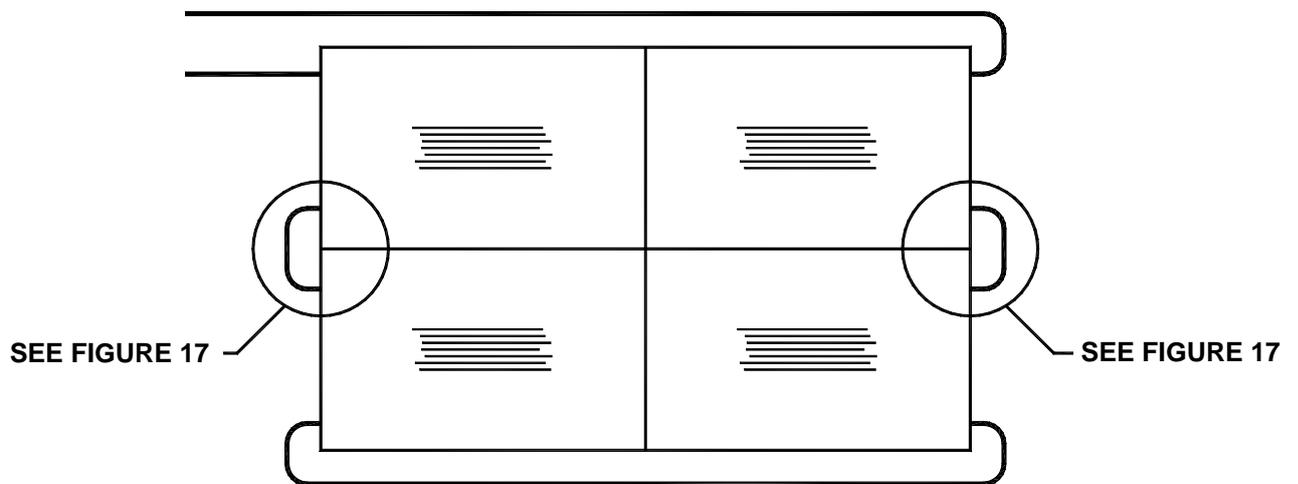

Figure 15 - Connection of sensors in series
Step 5 - In the case of a combination of sensors connect the sensors in series as shown in Figures 15 and 16. Special grease filled waterproof connectors are available from Tapeswitch Ltd. for this purpose. If necessary cut the cables to length. Always leave some slack in the cables in order that a sensor can be disconnected and reconnected at a later date. The connectors are fitted using a pair of pliers. Make sure that they are fully mated.